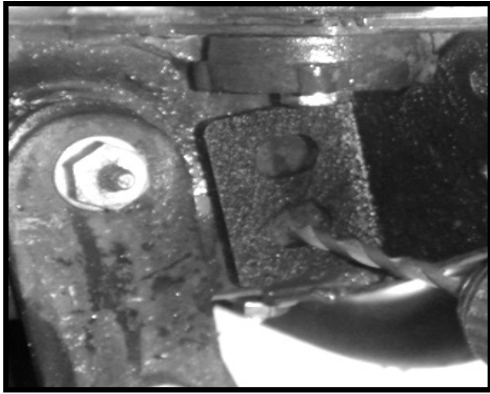

Figure 22.
18. Mark and drill holes in the side frame rail using a 19/64" drill bit (Figure 22).